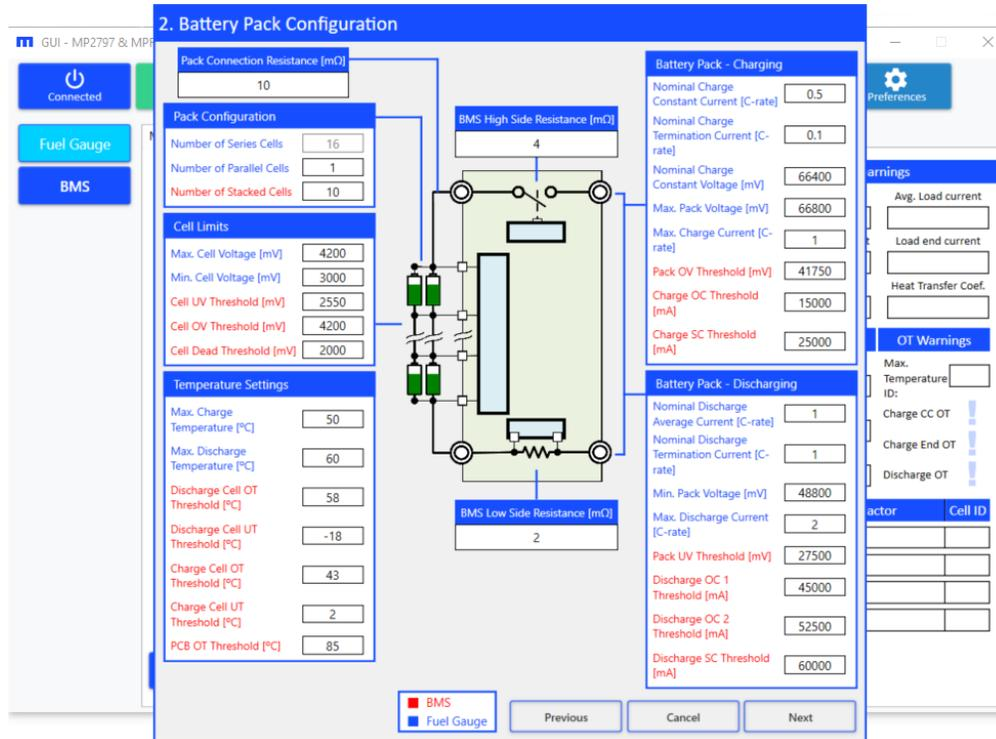

Figure 34: Configuration Wizard 2 – Battery Pack Configuration
- Use the Battery Pack Configuration window to select the most relevant parameters for the fuel gauge (denoted in blue) and the BMS protection (denoted in red) (see Figure 34 on page 28).